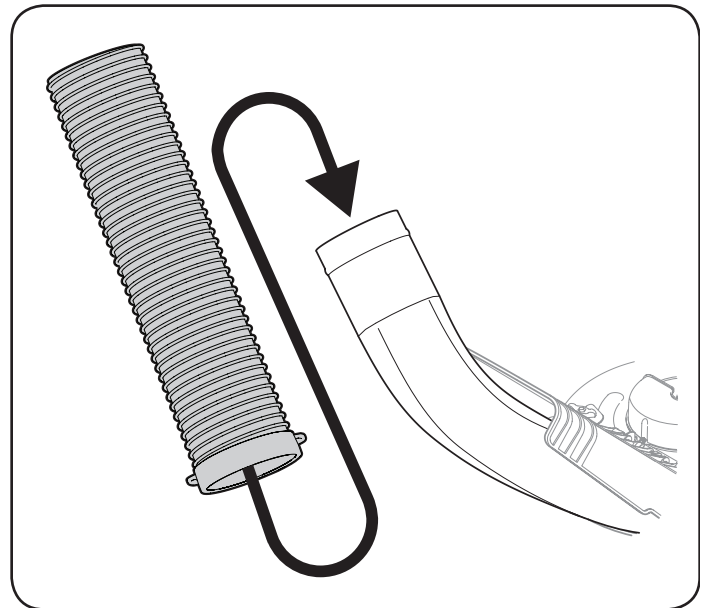

Figure 24
2. Lift by the handles at the bottom of the chute tube. Slide the chute tube over the chute elbow mounted on the cutting deck, as shown in Figure 24.